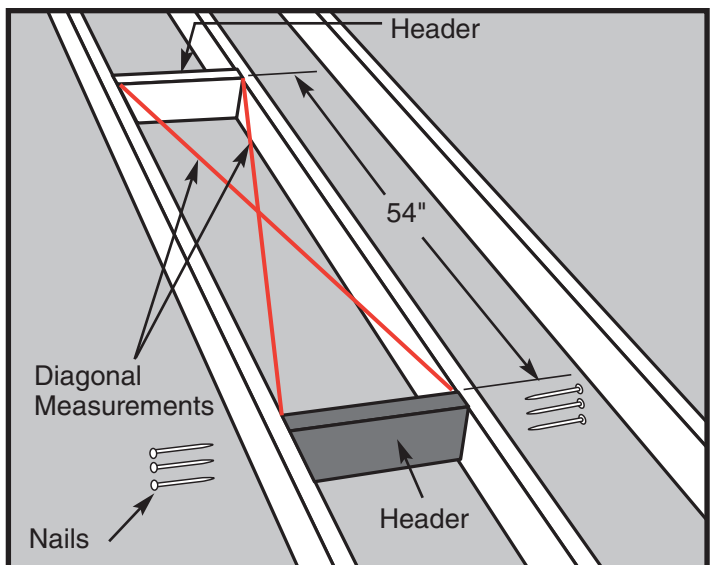

Figure 13 How to check for square
- STEP 5.** Position the second header 54" from the first one and repeat Step 4 ( See Figure 13).
- STEP 6.** The frame for the rough opening requires four sides. The headers make up two of those sides. If your ceiling joists are spaced so that they make up the other two sides of the rough opening, check the opening for squareness by measuring across the diagonals. The measurements should be within 1/8" to be considered squareness (See Figure 13).